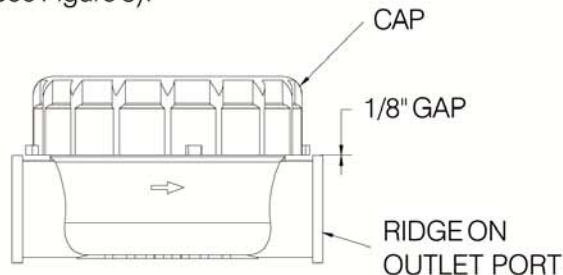

Figure 3
6. Thread on meter cap until hand tight. To check tightness, there should be 1/8" gap between cap and ridge on outlet port. (See Figure 3).